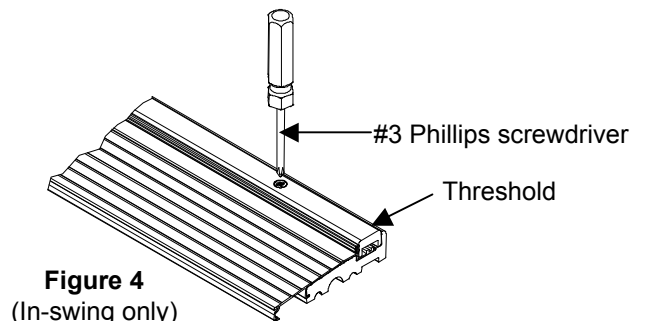

Figure 4
- 4** For an in-swing door with adjustable threshold, adjust the threshold as shown in Figure 4 so that there is even contact between the door sweep and the threshold. To test, put a sheet of paper between door sweep and threshold, close the door and pull. The correct adjustment would have slight tension, but if the paper tears, the tension is too high.